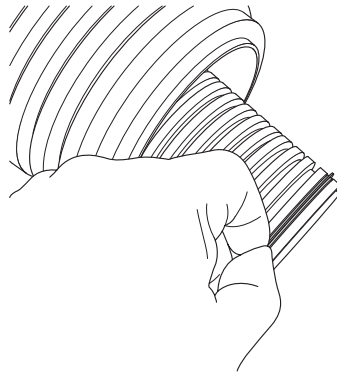

Fig. 17
4. Take one of the 60mm lip seals supplied and fit to the first groove in the flue duct. Also fit the 100mm lip seal to the air duct. (Figs. 17 & 18).